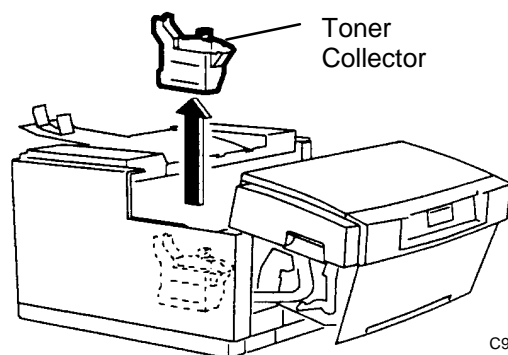

Figure 2. Removing the Toner Collector
2. (Figure 2): Lift and remove the Toner Collector.